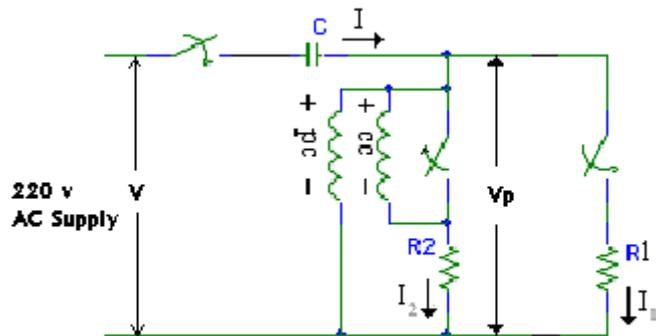

Figure 2:
5. Connect the circuit in Fig. 2 without the wattmeter. Measure  $V$ ,  $I$ ,  $I_1$ ,  $I_2$  and  $V_p$ .